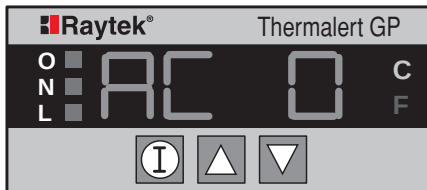

Figure 18: Ambient Temperature Compensation Display
2. Press the ⓘ button several times until the Ambient Compensation indicator displays (Figure 18). The display shows either a “0” or “1” (default= “0” - Off).